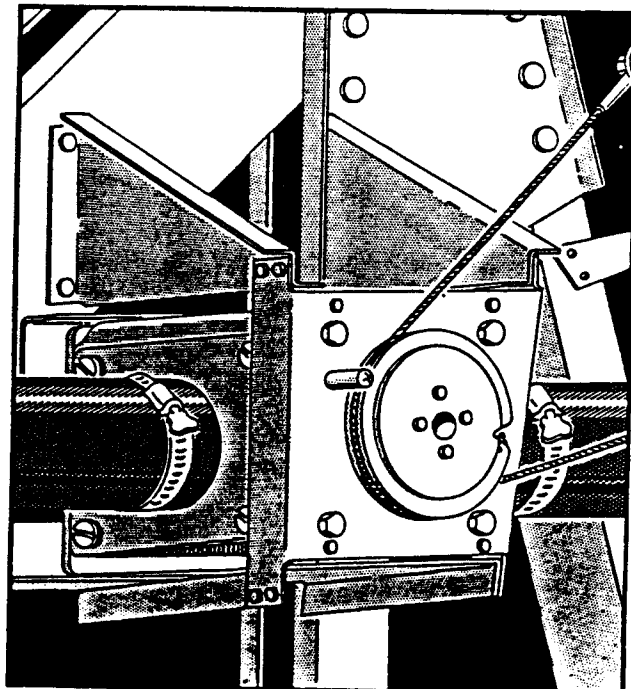

Figure 8. Emergency Oil Shut-off Valve
(1) DESCRIPTION. (See section IV, paragraph 11, figure 12.)- A manually-controlled oil shut-off valve is installed in each engine oil supply line (see figure 8). The oil shut-off valves are cable-controlled and operated by levers located at the top of the cabin between the radio operator's and the engineer's stations. The valve controls are labeled "EMERGENCY FUEL AND OIL SHUT-OFF VALVES," however, they may be used at any time it is desired to shut off the oil supply to an engine.
(2) REMOVAL.